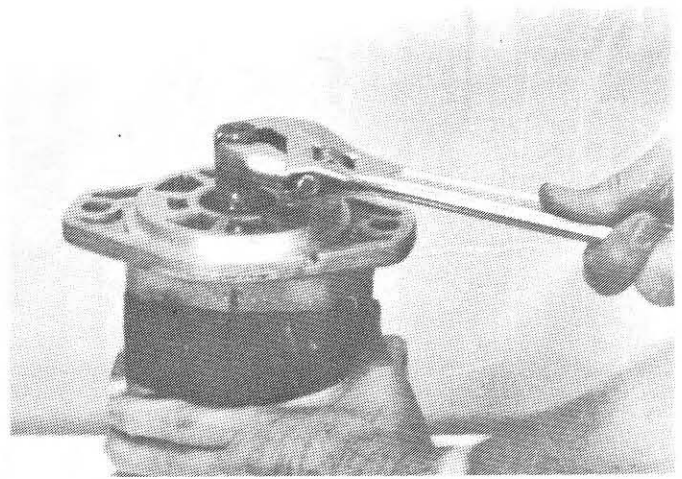

FIG. 34
45. Use a 12" adjustable wrench and see if the shaft turns properly. It will have resistance but should turn with a maximum torque of 25 lb. ft. applied. (Fig. 34)